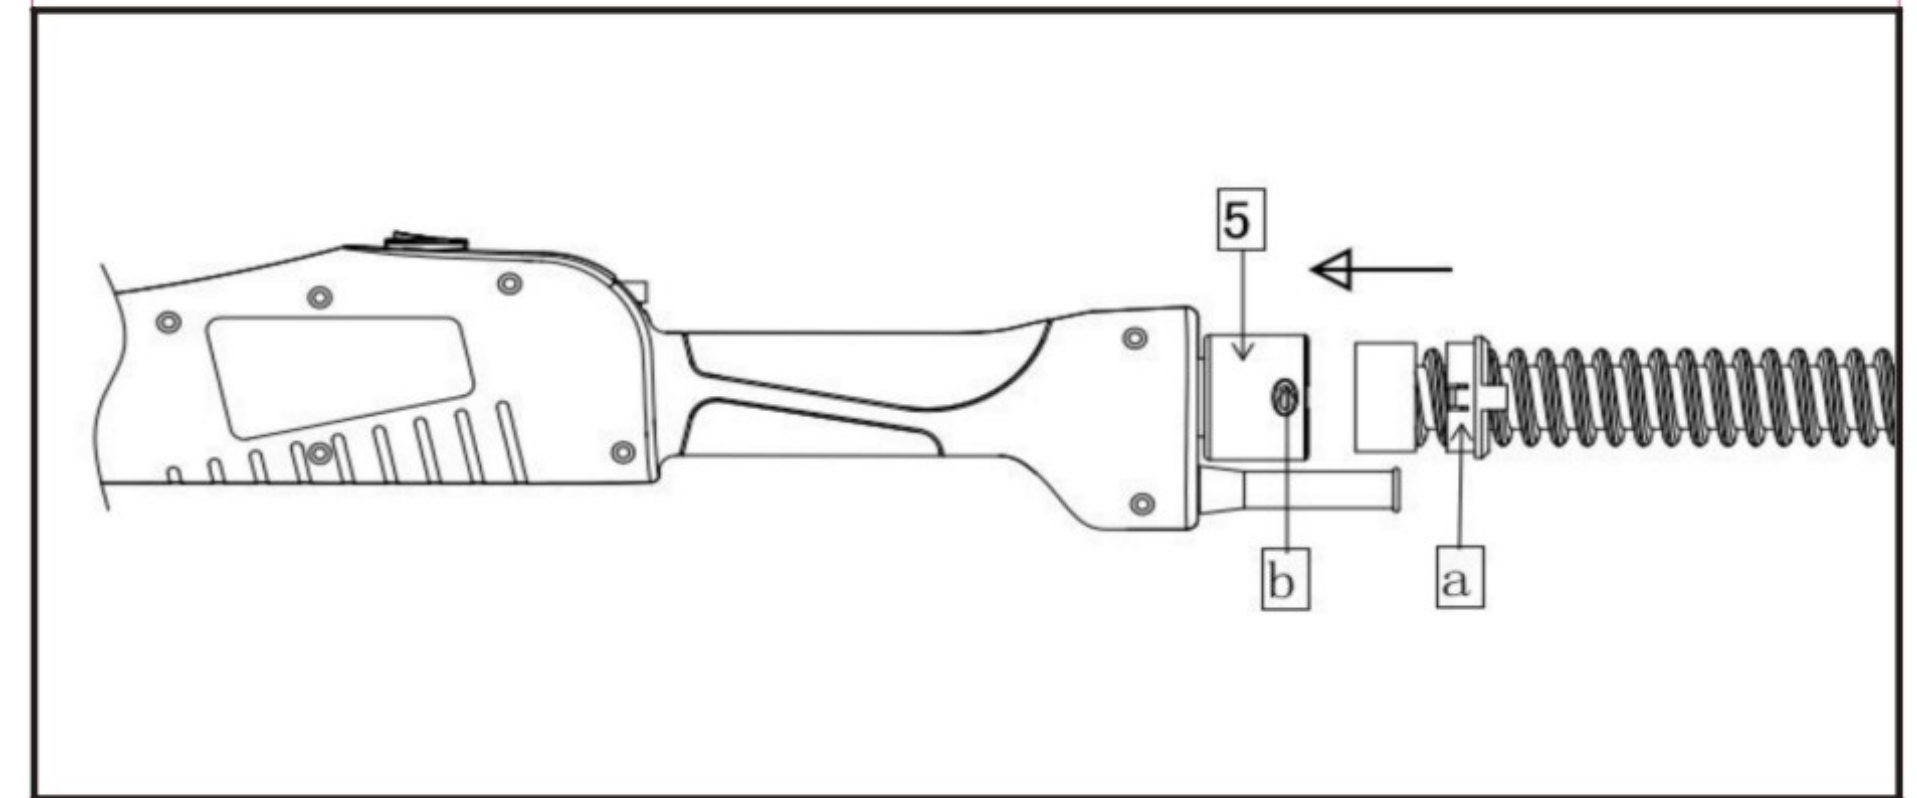

Fig .3
Installation Guide (Fig .3)
7. Connection Set for Dust Outlet (Fig .3 / 4)